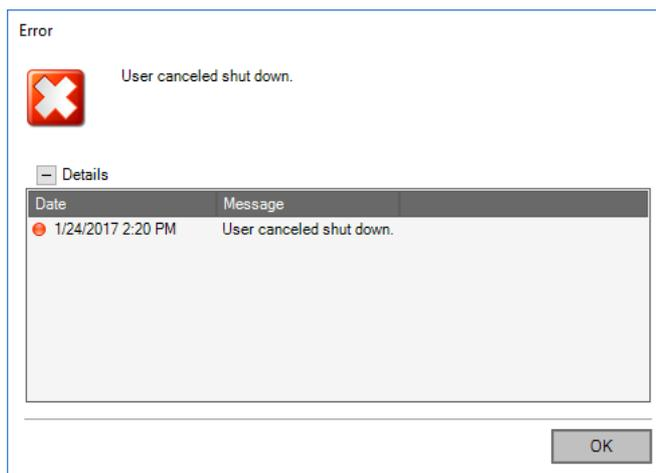

Figure 4-18. Canceling Shut Down error message
- a. If you click **No**, an Error message opens to inform about canceling the shut down, see Figure 4-18.